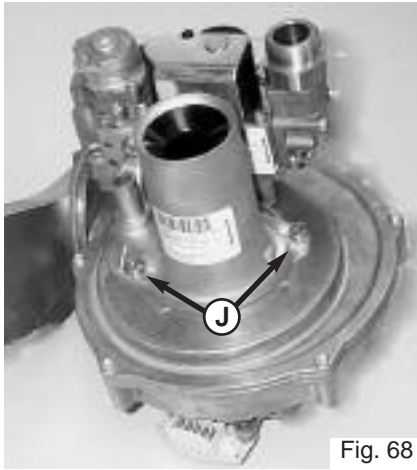

Fig. 68
3. Unscrew the two screws from the venturi J and remove with the gas valve (Fig. 68);